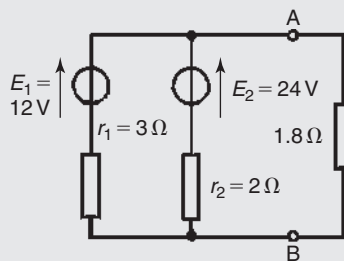
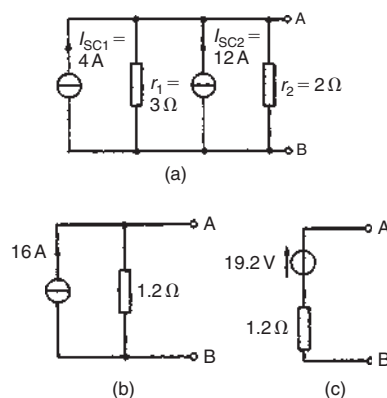

Figure 13.72
Figure 13.73
Problem 20. (a) Convert the circuit to the left of terminals AB in Fig. 13.72 to an equivalent Thévenin circuit by initially converting to a Norton equivalent circuit. (b) Determine the current flowing in the $1.8\ \Omega$ resistor.
(a) For the branch containing the 12 V source, converting to a Norton equivalent circuit gives $I_{SC} = 12/3 = 4\text{ A}$ and $r_1 = 3\ \Omega$. For the branch containing the 24 V source, converting to a Norton equivalent circuit gives $I_{SC2} = 24/2 = 12\text{ A}$ and $r_2 = 2\ \Omega$. Thus Fig. 13.73(a) shows a network equivalent to Fig. 13.72
From Fig. 13.73(a) the total short-circuit current is $4 + 12 = 16\text{ A}$ and the total resistance is given by $(3 \times 2)/(3 + 2) = 1.2\ \Omega$. Thus Fig. 13.73(a) simplifies to Fig. 13.73(b). The open-circuit voltage across AB of Fig. 13.73(b), $E = (16)(1.2) = 19.2\text{ V}$, and the resistance 'looking-in' at AB is $1.2\ \Omega$. Hence the Thévenin equivalent circuit is as shown in Fig. 13.73(c).
(b) When the $1.8\ \Omega$ resistance is connected between terminals A and B of Fig. 13.73(c) the current I flowing is given by